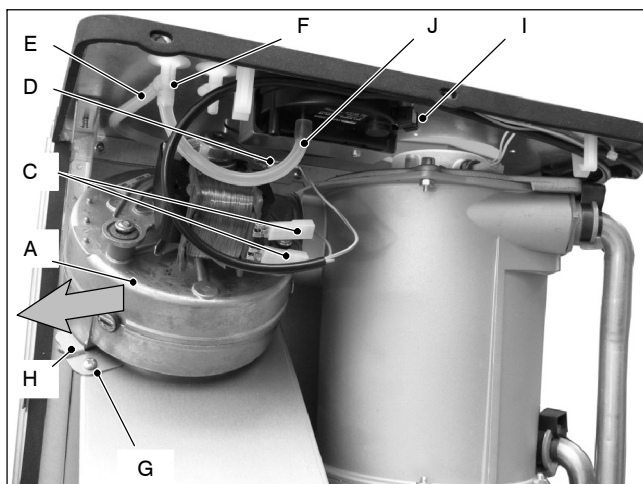

Fig. 4
- 2 Disconnect the connectors *C* and the earth connection *D* (Fig. 4).
- 3 Disconnect the pipe *E* by the pressure test point *F* (Fig. 4).
- 4 Unscrew the screw *G* and remove the bracket *H* (Fig. 4).
- 5 Remove the Fan by sliding it towards left (see the arrow in Fig. 4).